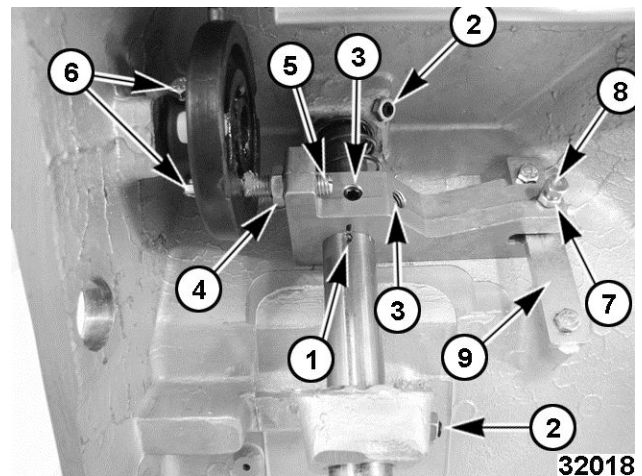

Fig. 39
6. Loosen the cam assembly set screws (6, Fig. 39).
8. Tighten the cam assembly set screws (6, Fig. 39).